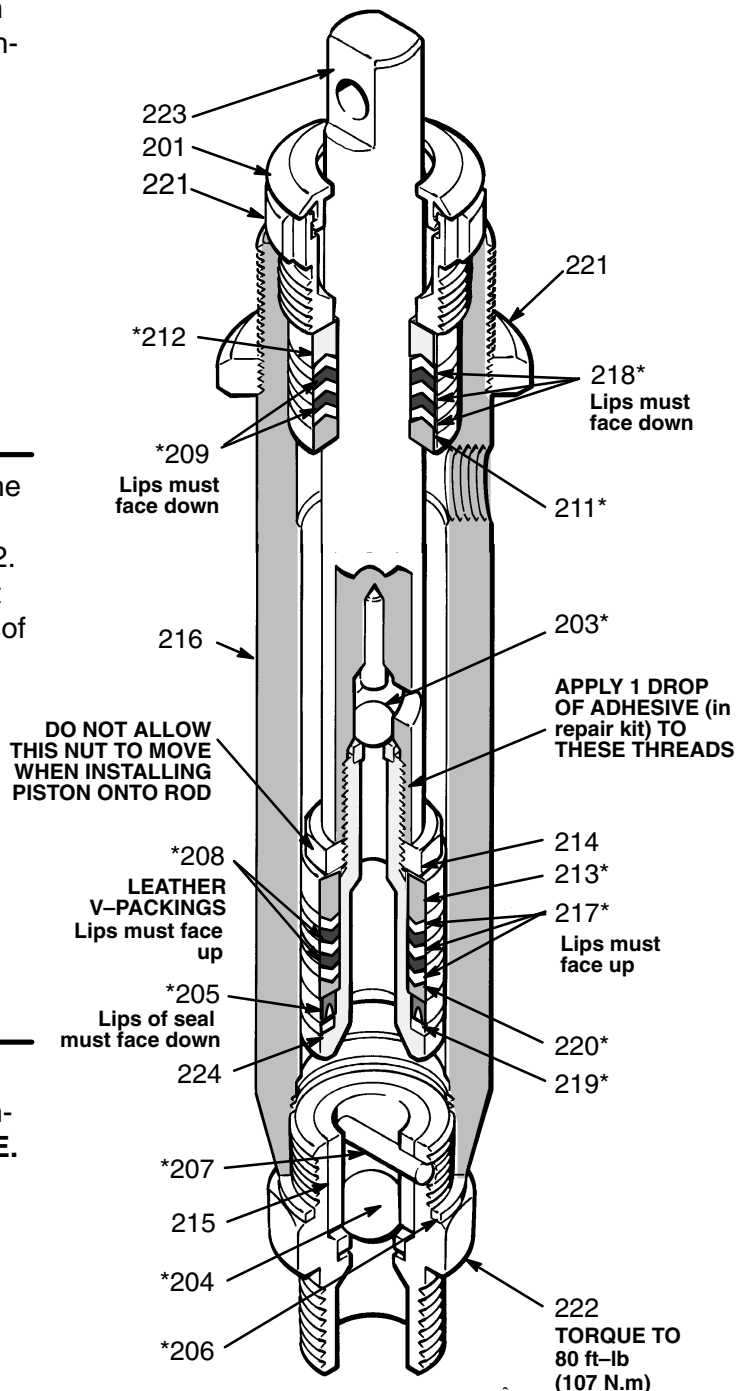

Fig 14
2. Torque the locknut (31) to 70 ft-lb (95 N.m).
**Disassembly.** See Fig 14, except where noted.
- B. Clean all parts thoroughly. Check the outside of the piston rod (223) and the inside of the cylinder (216) for scoring or scratches, which prevent the packings from sealing properly. Replace all worn parts.
- C. Alternate polyethylene and leather packings as shown in Fig 14. Notice that:
- Stack the backup washer (219\*), U-cup seal (205\*) *lips down*, and female gland (220\*), alternate the polyethylene and leather v-packings (217\*, 218\*) *lips up*, and stack the male gland (213\*) onto the piston valve (224). See Fig 14.
- Stack the male gland (211\*), alternate the polyethylene and leather v-packings (218\*, 209\*) *lips down* and stack the female gland (212\*) one at a time into the top of the cylinder. See Fig 14.
- Loosely install the packing nut (221) and plug (201).
- Insert the oiled piston rod (223) into the bottom of the cylinder.
- Assemble the intake valve. Use a new gasket (206\*). Screw the valve into the cylinder and tighten to 80 ft-lb (107 N.m). See Fig 14.
- Screw down the cylinder locknut (31) until it is finger tight at the bottom of the external cylinder threads. See Fig 14.